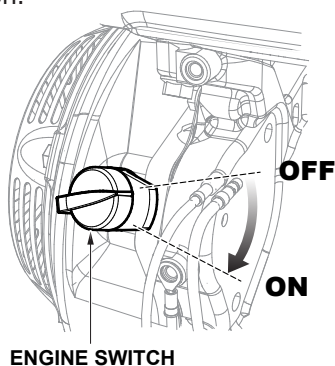

Figure 13. Engine ON/OFF Switch (ON)
6. Place the **engine ON/OFF switch** (Figure 13) in the **ON** position.